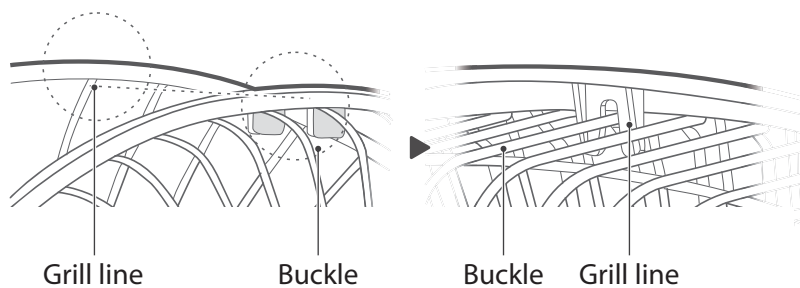

Fig.3
3.1 Align the front grill buckle with the top line of the rear grill from top to bottom, after aligning, look at the schematic from the back.(Fig. 3)